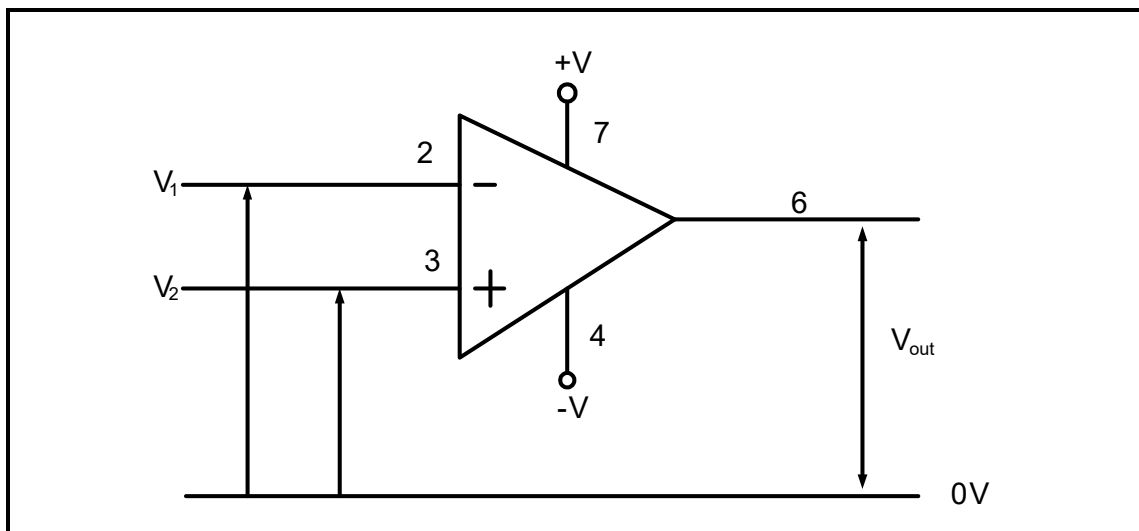

FIGURE 4.2: IDEAL OPERATIONAL AMPLIFIER
4.2 Refer to FIGURE 4.2 below and answer the questions that follow.
4.2.2 Draw the output of the op amp in FIGURE 4.2 above on the ANSWER SHEET for QUESTION 4.2.2 when the input at pin 2 and pin 3 is identical and in phase. (1)